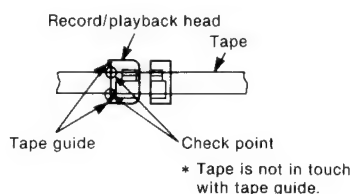

Fig. 6
- Run the tape by setting the unit to playback mode and adjust screw (B) so that tape does not curl or deform. (Shown in Fig. 6.)